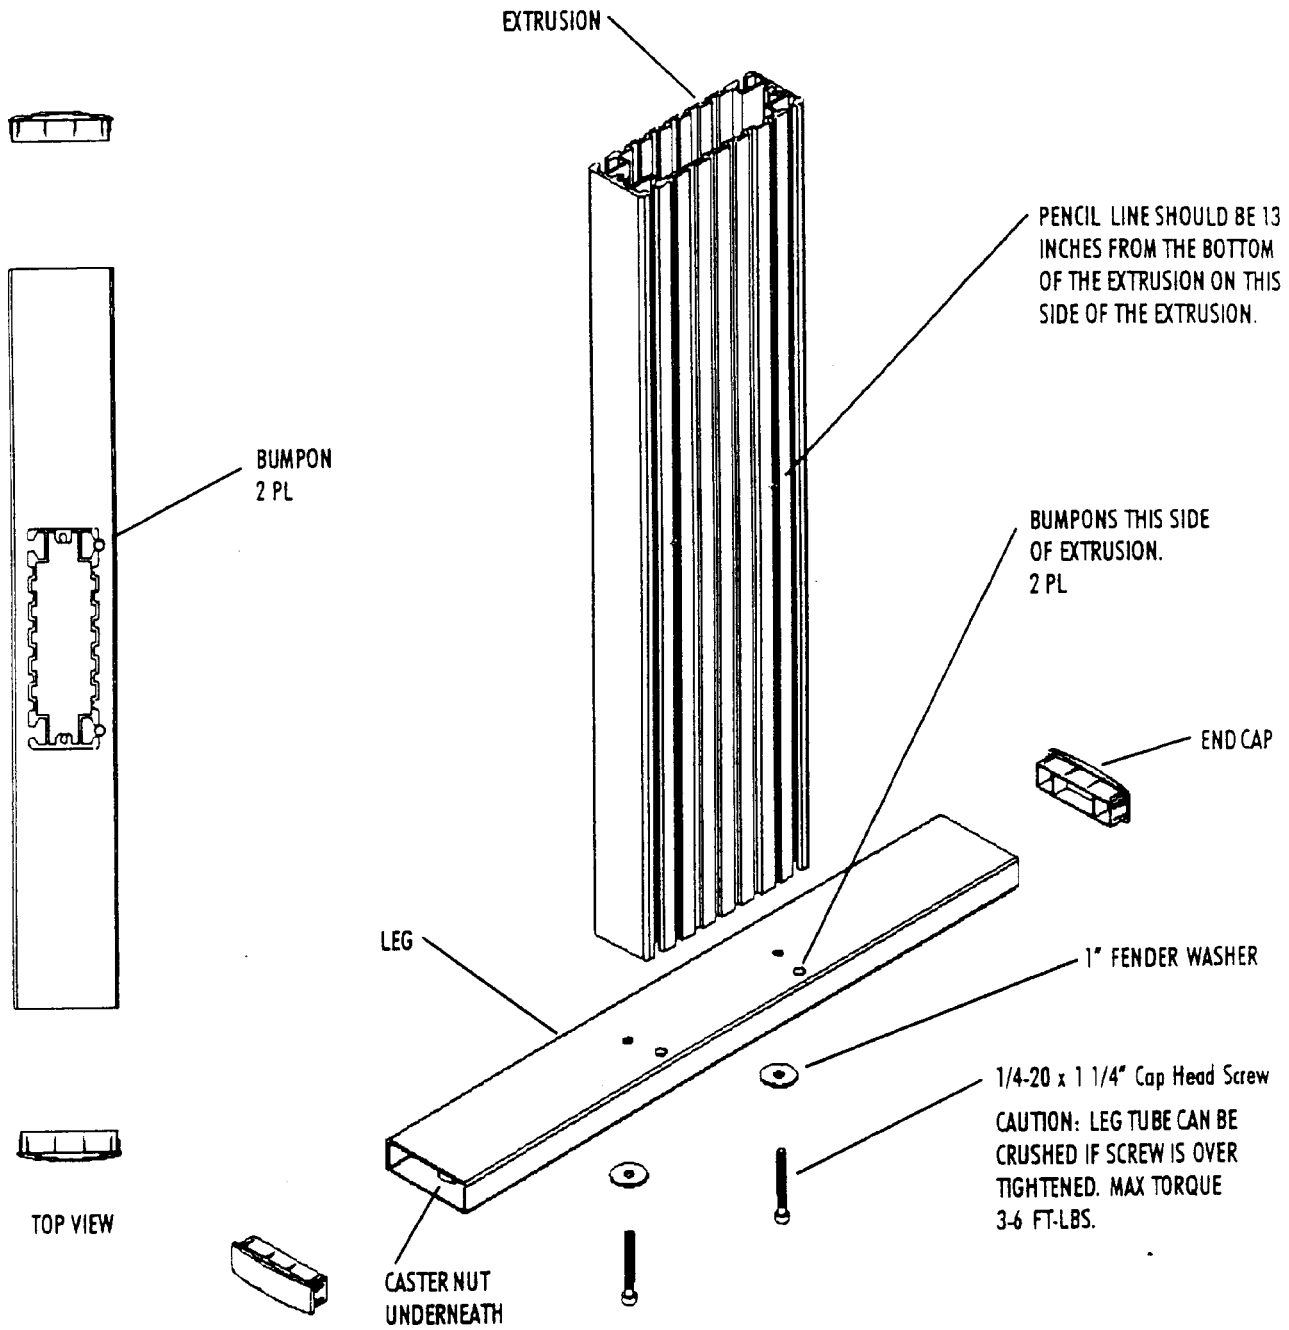

Figure 4: Building Leg Assemblies
2. On each leg assembly, observe that there is a small, clear, plastic button (bumpon) on the horizontal leg bar. This button is on the inside of the cart, at the back. Position the leg assemblies as shown in Figure 4. Leave a space between the leg assemblies about equal to the length of the strut.